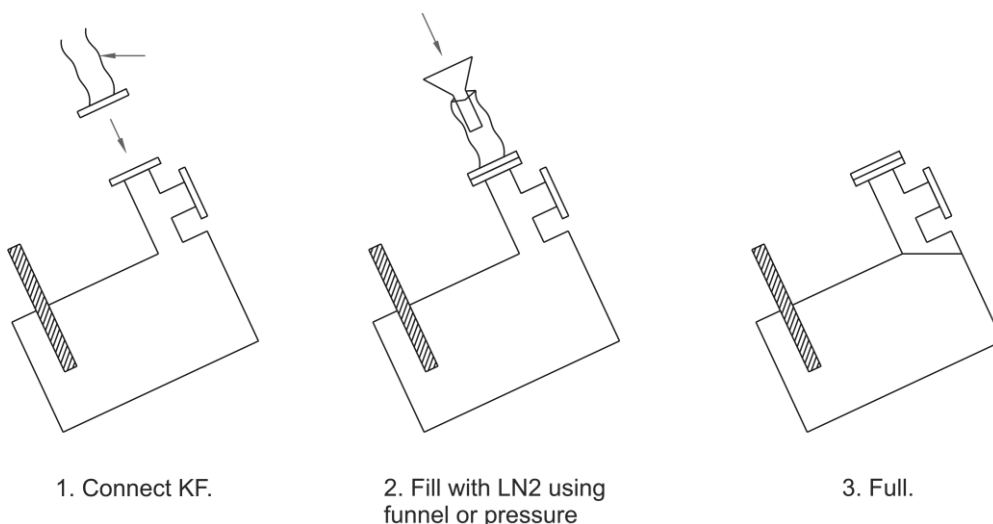

Figure 34. Filling the LN₂ bath cryostat, schematic diagram. Please make sure not to spill any liquid nitrogen onto skin or clothing through the airing flange.
- Fill the LN₂ bath cryostat with liquid nitrogen using the supplied KF-to-tubing adapter, see figure 34.